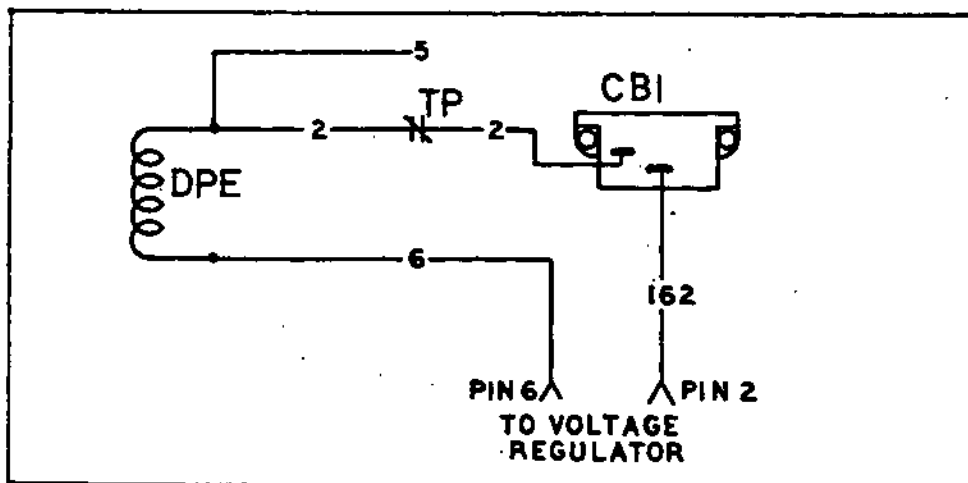

Figure 3.5-D. Field Circuit Breaker in DPE Circuit
3.5.4- FIELD CIRCUIT BREAKER (Figure 3.5-A, 3.5-D)
3.5.5- BREAKER RELAY (Figure 3.5-A)